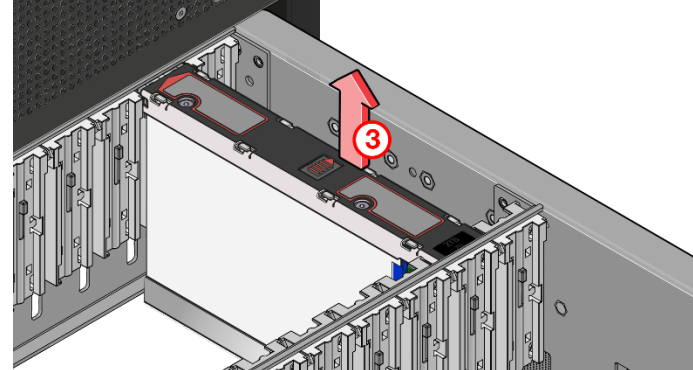

Figure 6-2: Removing the DDIC
4. Lift the DDIC out of the slot, as shown in Figure 6-2.